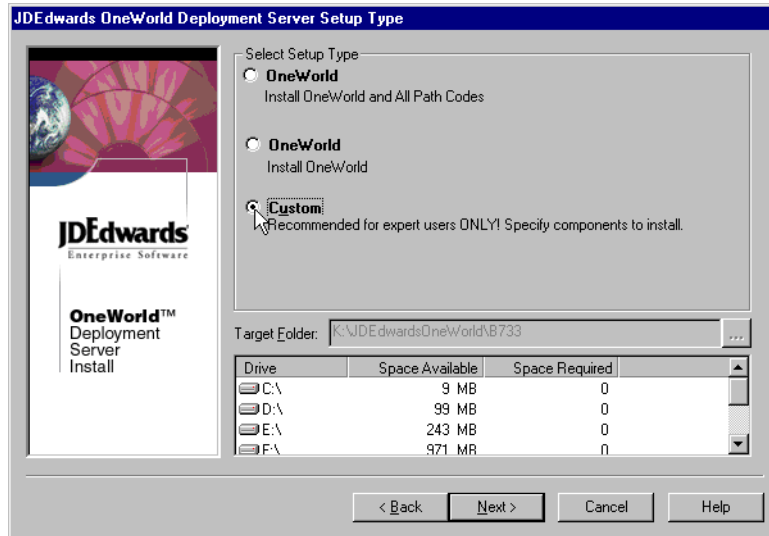

Figure 255. OneWorld Deployment Server Setup Type
- Click **Next** on the OneWorld installation program Welcome. The OneWorld Deployment Server Setup Type form appears as shown in Figure 255.